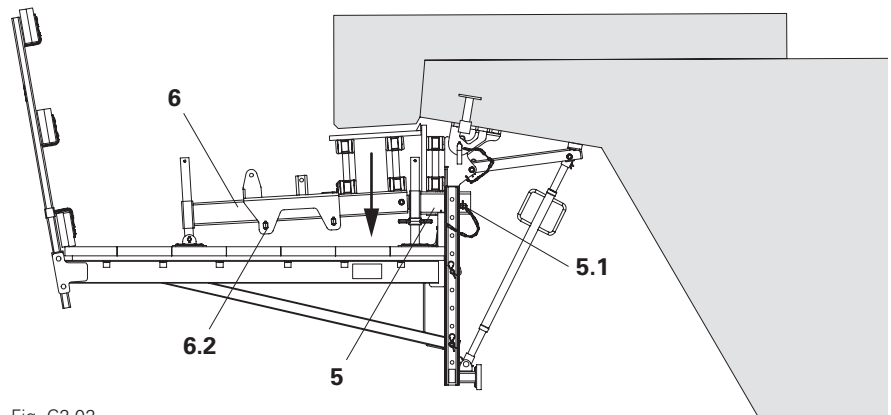

Fig. C2.02
1. Release wedge (5.1) on Formwork Fixing VGK 2 (5) and wedges (6.2) on Formwork Support VGK (6).
2. Turn spindle downwards until the slab formwork has been released from the cantilevered parapet. (Fig. C2.02)